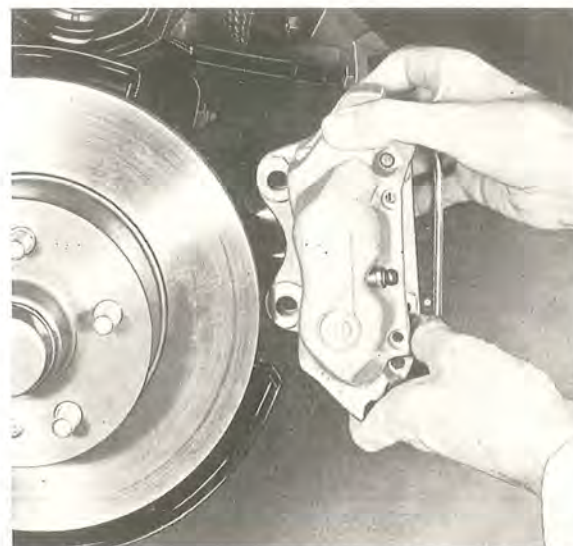
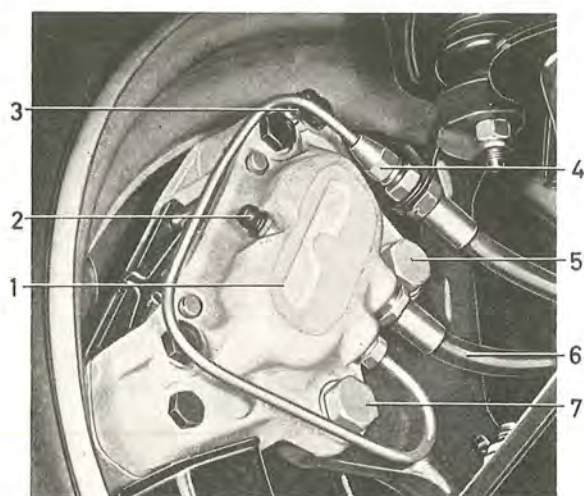

Fig. 5-21. Removing the front wheel brake caliper
Fig. 5-20. Front wheel brake unit fitted
4. Unscrew the attaching bolts (5 and 7, Fig. 5-20) and remove the brake caliper, see Fig. 5-21.